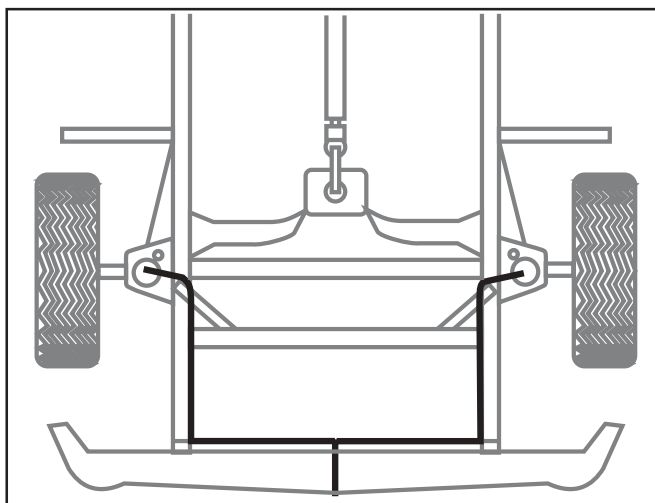

Figure 6
10. Push the remaining air line over the last fitting on tee and route along frame to desired inflation valve location (Figure 6). Attach with plastic straps or wire.